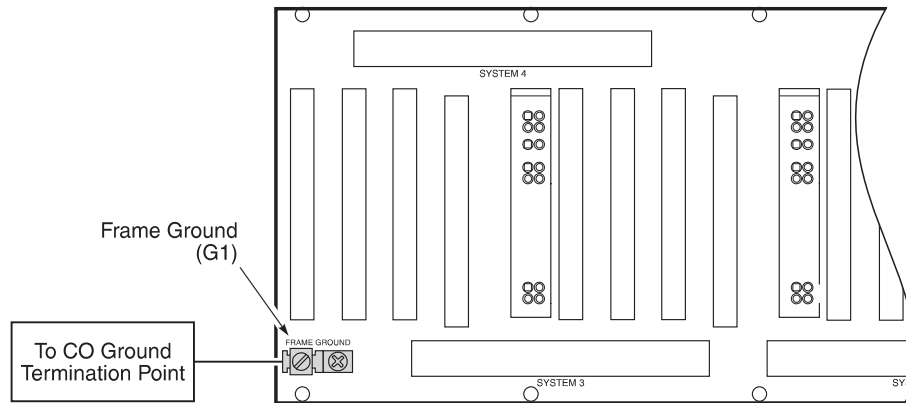

Figure 4. Connecting the Frame Ground (Protection Ground)
- 3 Connect the frame ground (Figure 4):